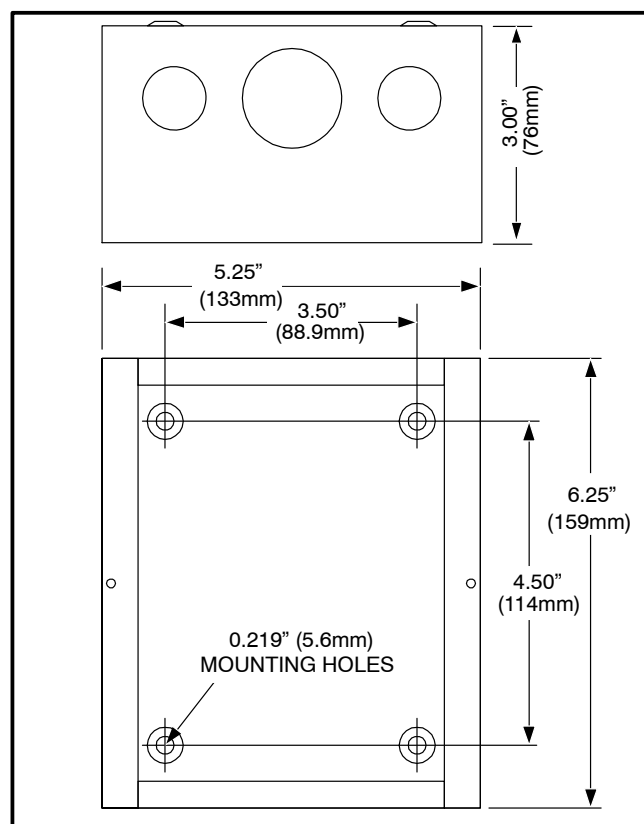

FIGURE 15-3. ENCLOSURE FOOTPRINT
3. Locate the desired location on wall. Using the enclosure as a template, mark the required holes (see Figure 15-3). Before cutting or drilling, make sure no wiring, plumbing, or gas lines run behind the wall. Attach mounting brackets to annunciator using the screws provided.